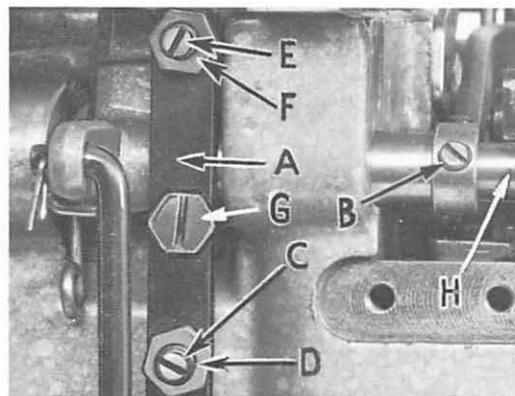

Fig. 14
Assemble the presser foot to presser arm. With needle in high position, swing presser arm into sewing position and set the presser foot to align needle holes (front and back) and flat on throat plate. The front edge of needle hole in presser foot must be aligned with front edge of needle hole in throat plate. It is also important that the bottom of the presser foot be flat on the throat plate. If necessary, presser foot can be realigned with throat plate slots by shifting the foot lifter lever shaft (H, Fig. 14). To move the shaft, loosen collar screws (B, Fig. 14) and clamp screw (G) and then shift the foot lifter lever shaft to the left or right as required. Re-tighten collar screws and clamp screw.
The foot lifter lever arm (A, Fig. 14) and the collar (B) secure the shaft. Be sure the presser arm does not bind and rise when presser foot release bushing is unlocked.